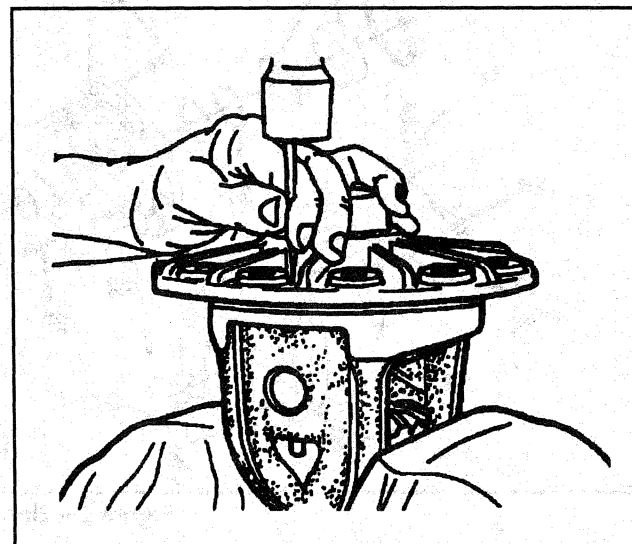

Figure 6—Removing the Roll Pin
13. Roll pin from the case using a hammer and punch (Figure 6).